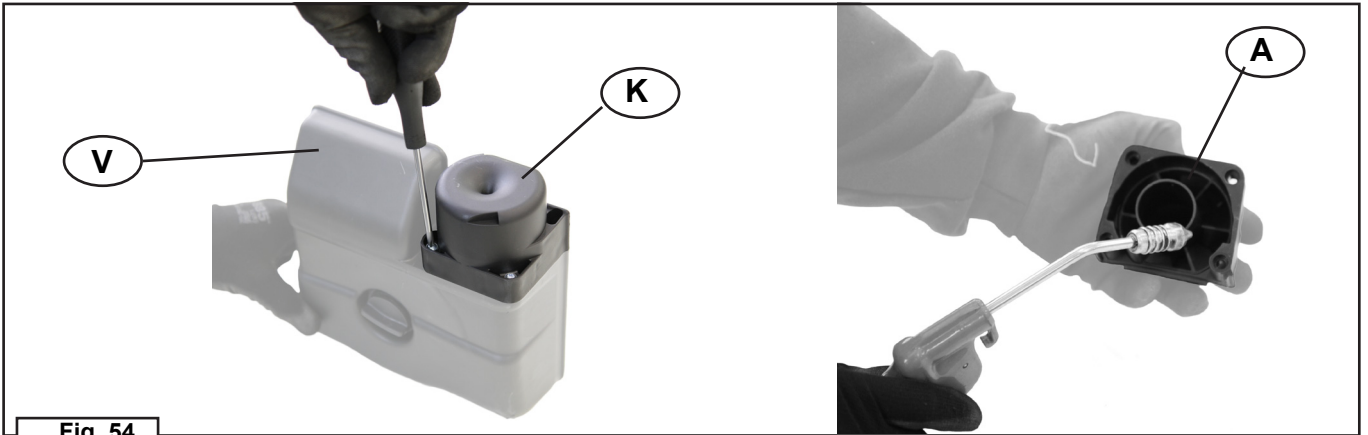

Fig. 54
24	Disassemble the pre-filter (K) and check for clogging; if necessary, remove it, from its position on the lower part of the air filter cover (V). Clean if clogged (fig. 54).